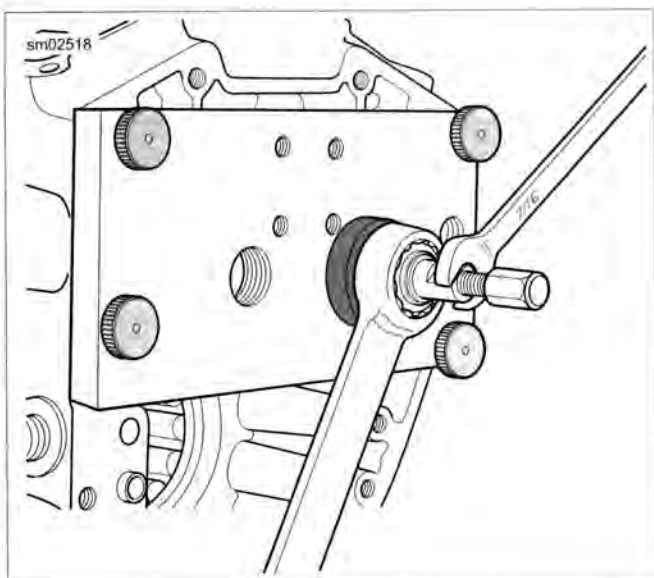

Figure 3-93. Bearing Removal
11. See Figure 3-93. Turn hex nut clockwise until bearing is free.